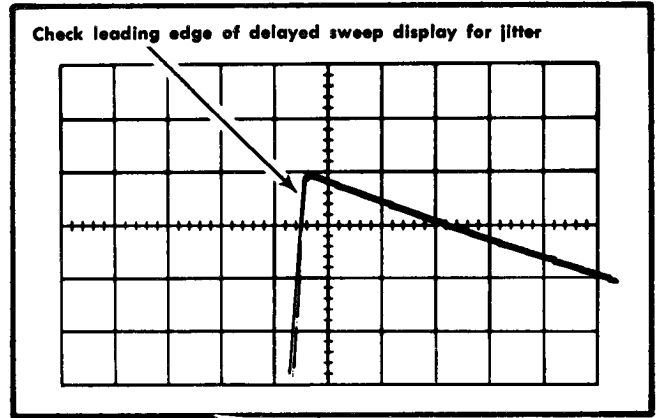

Fig. 6-49. Typical CRT display when checking delay-time jitter.
c. CHECK-Jitter on the leading edge of the pulse should not exceed 0.5 division (one part in 20,000; see Fig. 6-49). Disregard slow drift.
e. CHECK-Jitter on leading edge of the pulse should not exceed 0.5 division (see Fig. 6-49). Disregard slow drift.